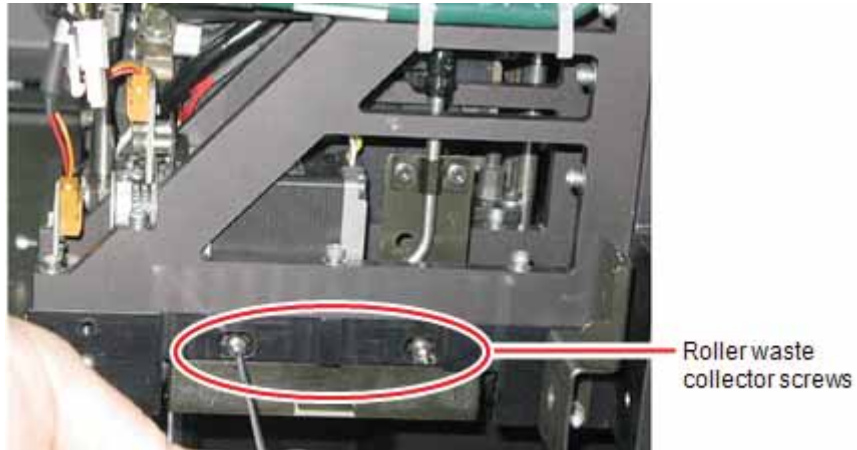

Figure 4-46 Removing the roller waste collector screws
1. Return the roller waste collector to the print block and screw on the covering (see Figure 4-46 on the previous page).